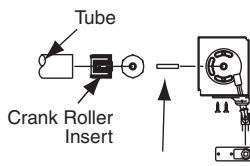

Figure 2
- ③ Remove spring roller from its headbox. The one-notch spring roller is pre-tensioned and the dog is locked in the notch.
- ④ If tension is lost, add 8-11 pre-turns (if needed, a couple more pre-turns may be added).
- ⑤ If the shade has a detachable crank handle, remove the universal joint from the bottom of the end cap by removing 2 screws. (Fig. 2). Save universal joint & screws.